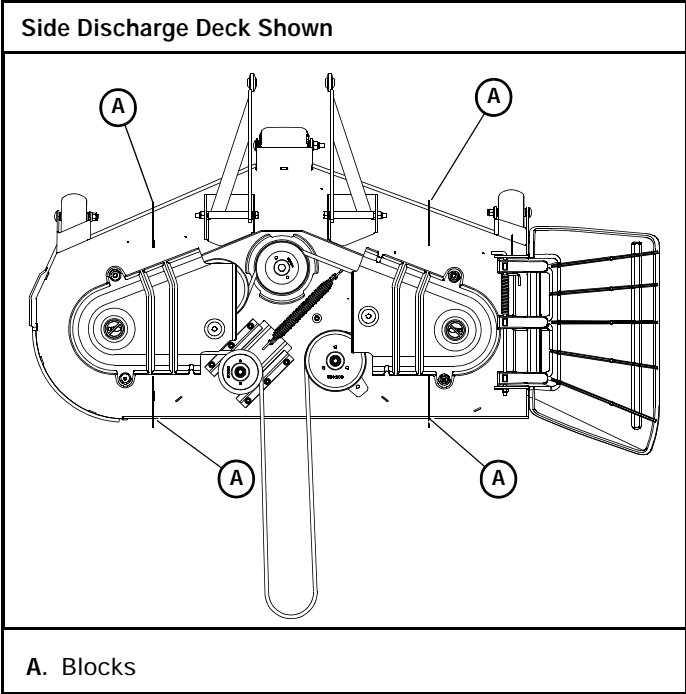
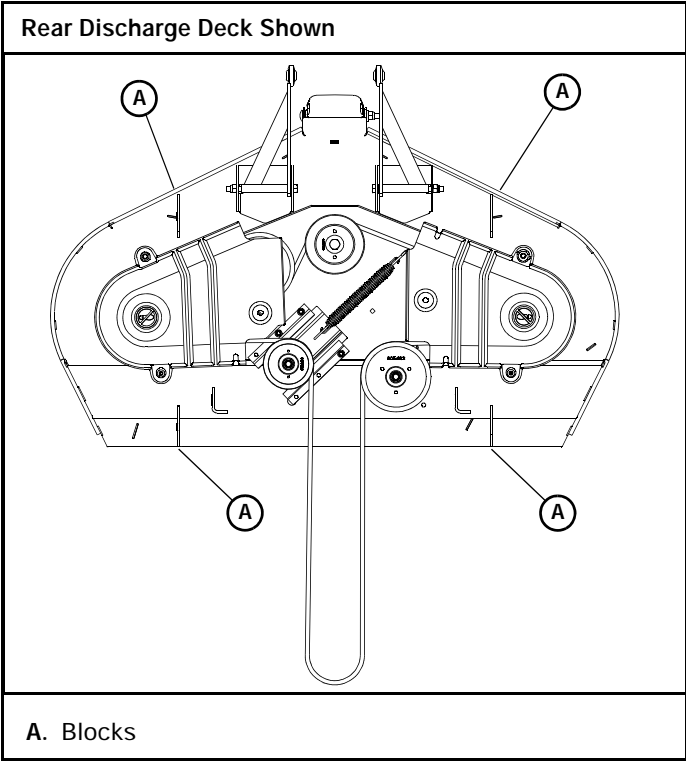

Figure 6-1
Figure 6-2
4. Place 3" (76.2 mm) high deck support blocks (two stacked 2" x 4" blocks can be used to create a 3" [76.2 mm] high support) at the four corners of the deck as shown. **NOTE:** The back of deck will automatically be set 1/4" (6.35 mm) higher. Figure 6-1 & Figure 6-2